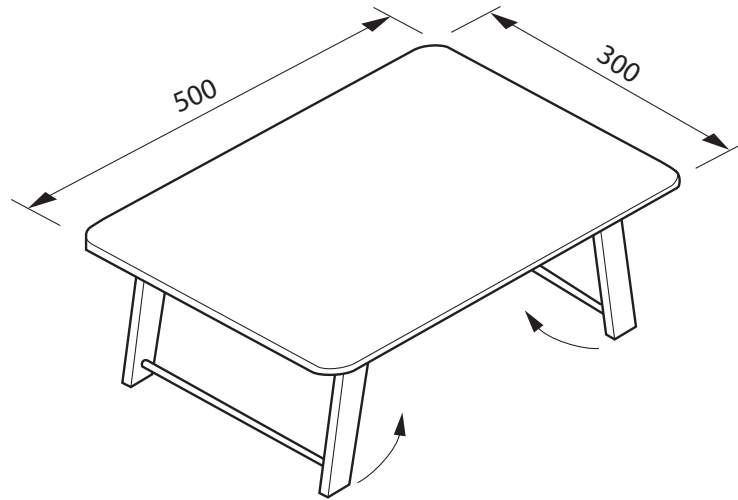

Fig. 3
- 2 Fig. 3 shows a tray that is used in a care home for elderly people.